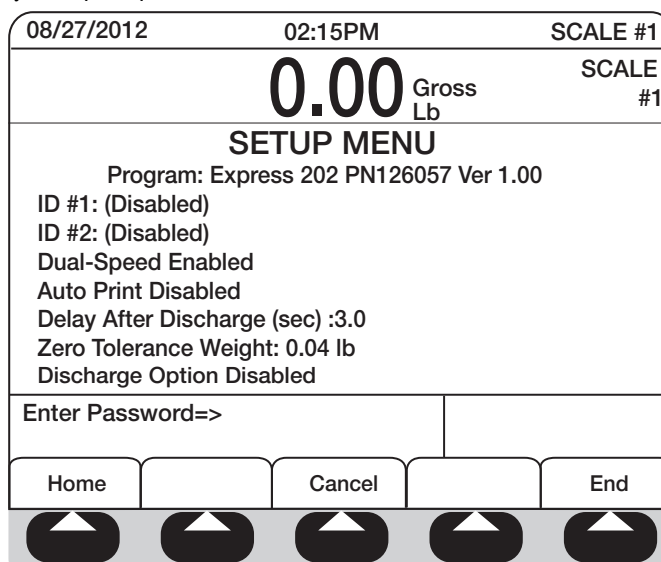

Figure 3-4. Setup Menu Enter Password
1. From the main setup menu screen, press **Setup Password** (Figure 3-4 on page 19). The system prompts, *Enter New Password*.